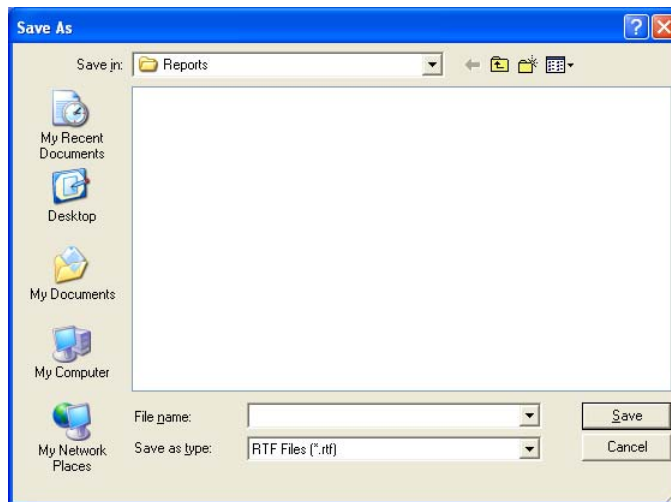

Figure 5-26
- To save all these parameters to a file, click the **Save to File** button or press *Alt+S*. The Save As screen appears as shown in Figure 5-26. The default folder is in ADAS\Reports. Data is saved in rich text format (.rtf), which may be viewed in a word processor (such as WordPad).